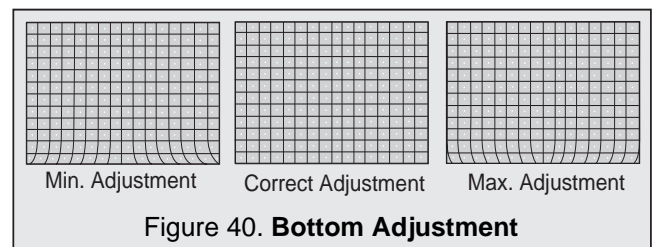

Figure 40. Bottom Adjustment
3. Adjust "BTMG" to straighten lower lines (See Fig. 40)